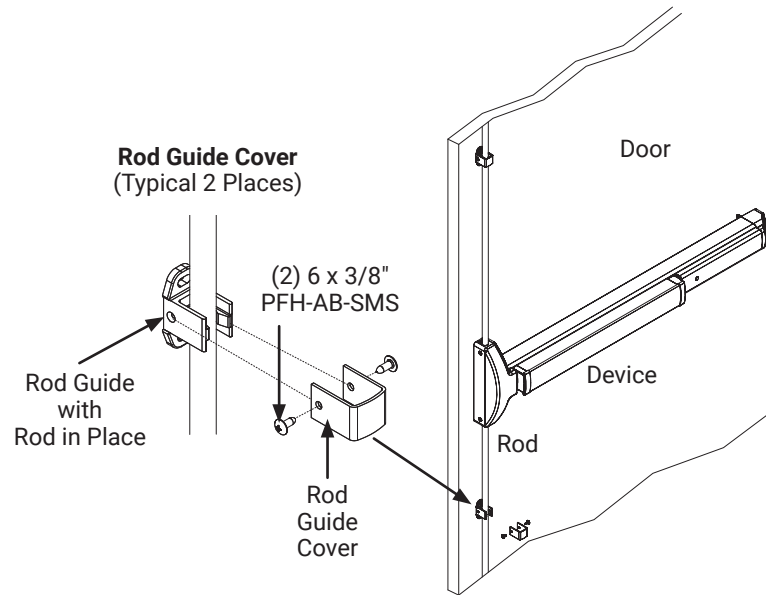

Figure 26
1. Install top and bottom rod guide covers with two (2) 6 x 3/8" (9.5mm) PFH-AB-SMS. Gently tighten screws. See **Figure 26**.